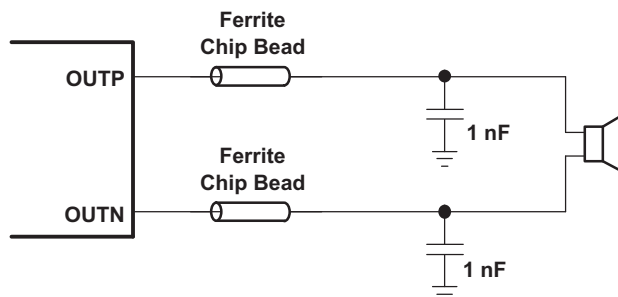

图 22. Typical Ferrite Chip Bead Filter (Chip Bead Example: NFZ2MSM series from Murata)
- **Output filter**—The ferrite EMI filter (图 22) should be placed as close to the output pins as possible for the best EMI performance. The capacitors used in the ferrite should be grounded to power ground.